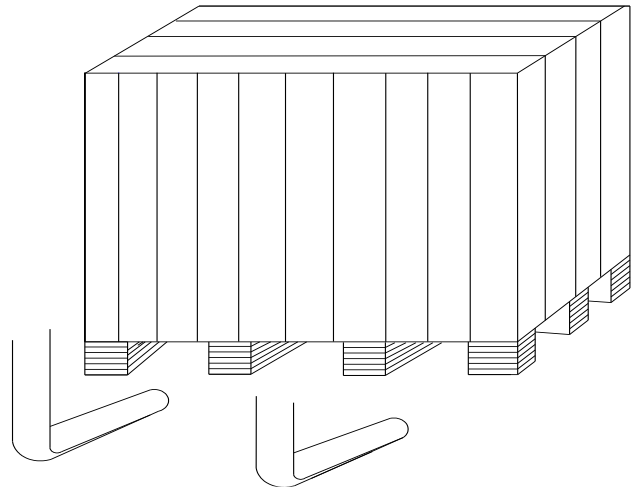

Fig 4
4.1.1 After being sure that the package of your machine is perfect, you can carry the wheel balancer to the installation site. (Fig4). The choice of the installation should comply with the following requirements. The ambient temperature is 0°C-50°C and the RH ≤85%.